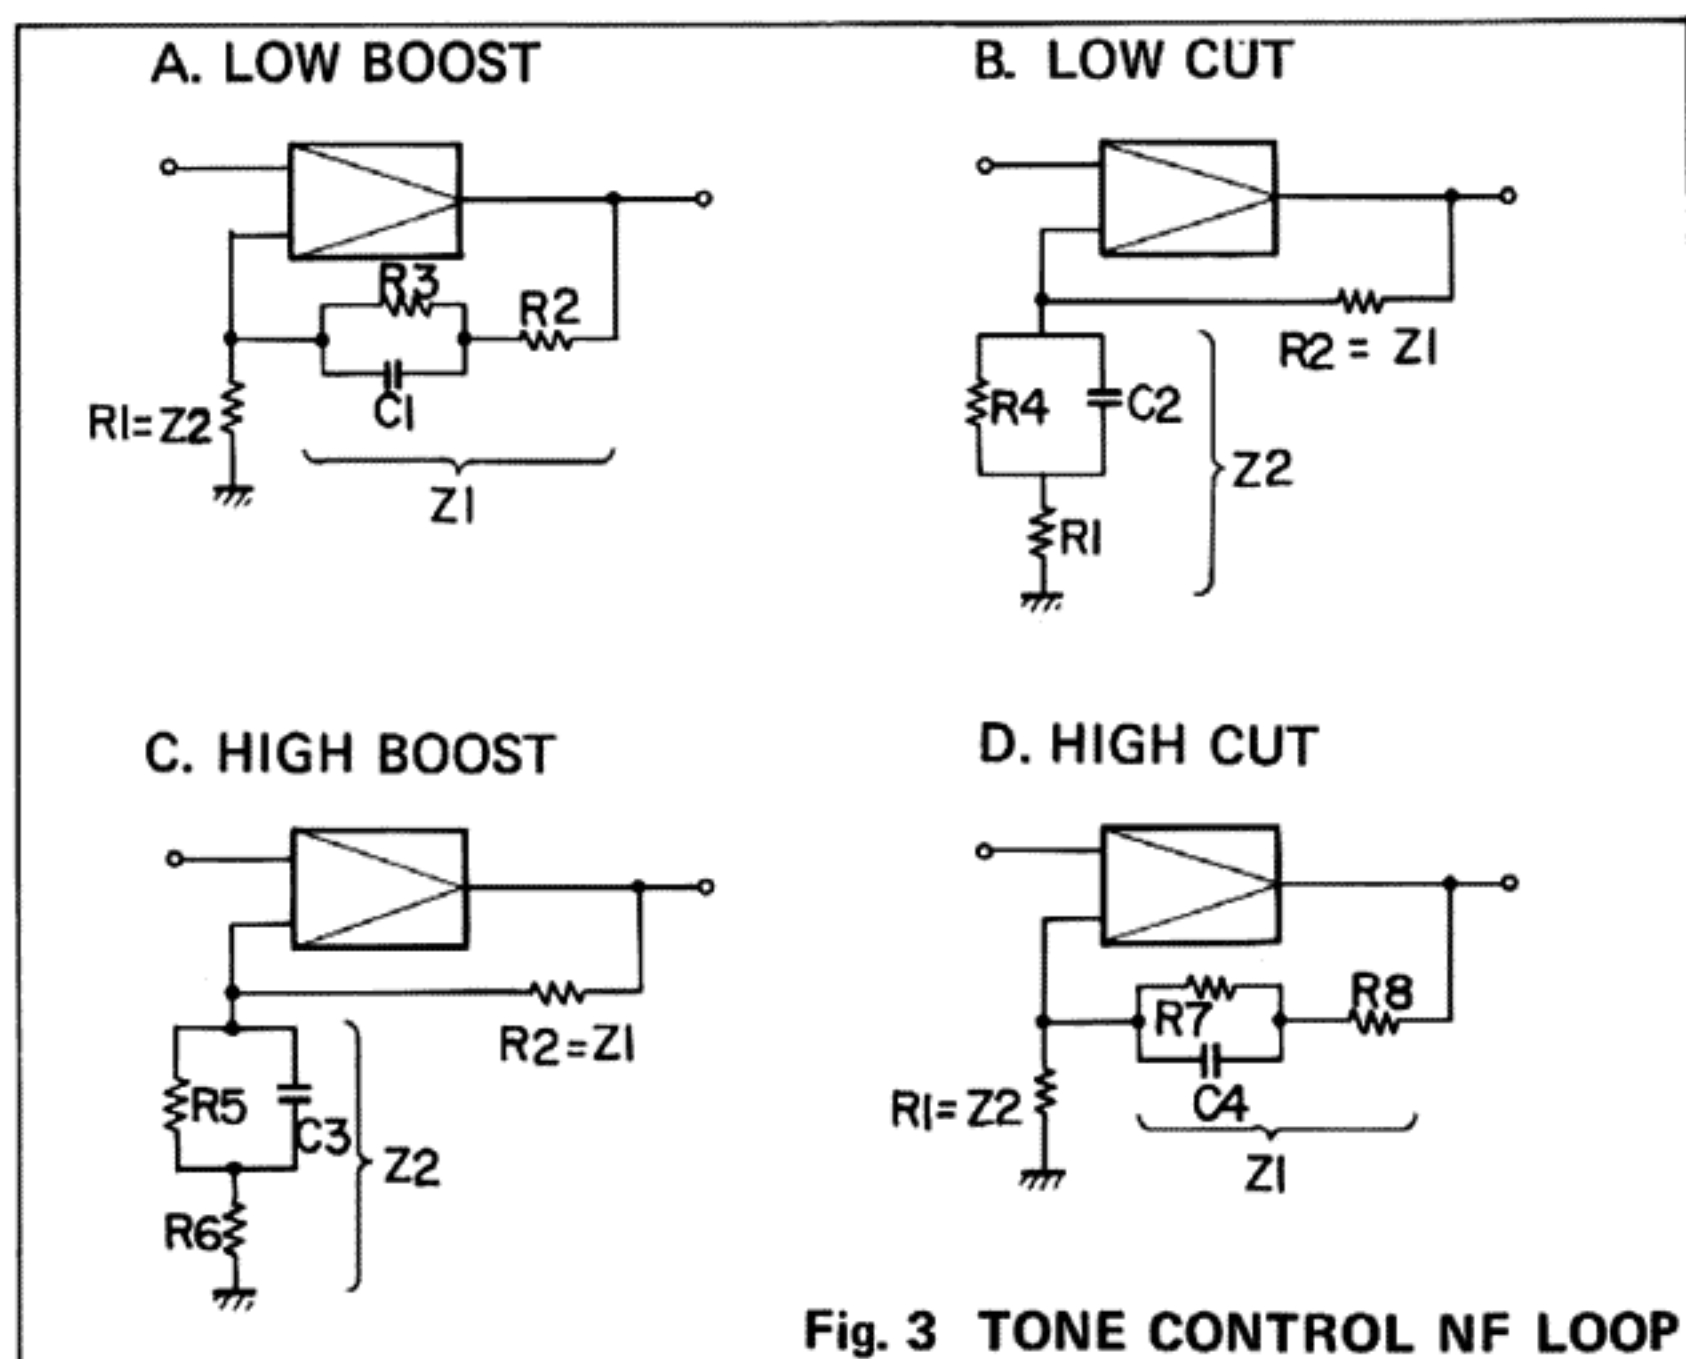

Fig. 3 TONE CONTROL NF LOOP
An abbreviated schematic for low boost circuit in the NF loop is shown in Fig. 3 (A). The low boost curve is obtained by changing the values of R_3 and C_1 by means of a rotary switch. R_3 here represents R_6 to R_{10} within the Bass control switch assembly No. 716-0001-00, and C_1 here represents C_{13} , and C_{20} to C_{24} . This applies only, however, when the TURN-OVER switch is at 400Hz. When this switch is at 200Hz, C_{14} to C_{17} are further connected into the circuit in parallel.
Fig. 3 (B) briefly illustrates this low-cut circuit in the NF loop in which the low-cut curve is obtained by varying the values of R_4 and C_2 . As explained above, R_4 here represents R_1 to R_5 and C_2 here represents C_7 to C_{12} . With turnover at 200Hz, C_1 to C_6 are further connected into the circuit in parallel.
Fig. 3 (C) shows the representative circuit in the NF loop for high boost, the curve for which is obtained by varying the values of R_5 and R_6 . R_5 and R_6 in this abbreviated schematic represents R_{17} , R_{19} , R_{21} , R_{23} , R_{25} , R_{27} , R_{37} , R_{39} , R_{41} , R_{43} , R_{45} and R_{47} .
Fig. 3 (D) shows the representative circuit in the NF loop for high cut, the curve for which is obtained by varying the values of R_7 and R_8 . R_7 and R_8 in this abbreviated schematic represents R_{37} , R_{39} , R_{41} , R_{43} , R_{45} , and R_{47} . Turnover is accomplished by fixing the C_4 value beforehand with 2 capacitors connected in parallel for 2.5kHz turnover, and one being cut off for 5kHz turnover. C_4 in this abbreviated schematic represents C_{13} and C_{15} .